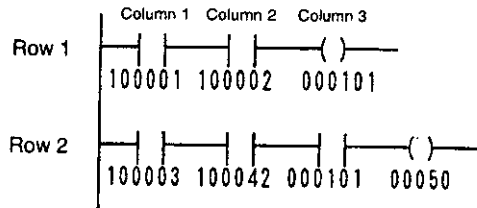

Figure 2.26 Order of Solving Within a Network
- 8) If the order of ladder logic program solving shown in *Figure 2.26* were written as reference numbers, it would appear as follows: